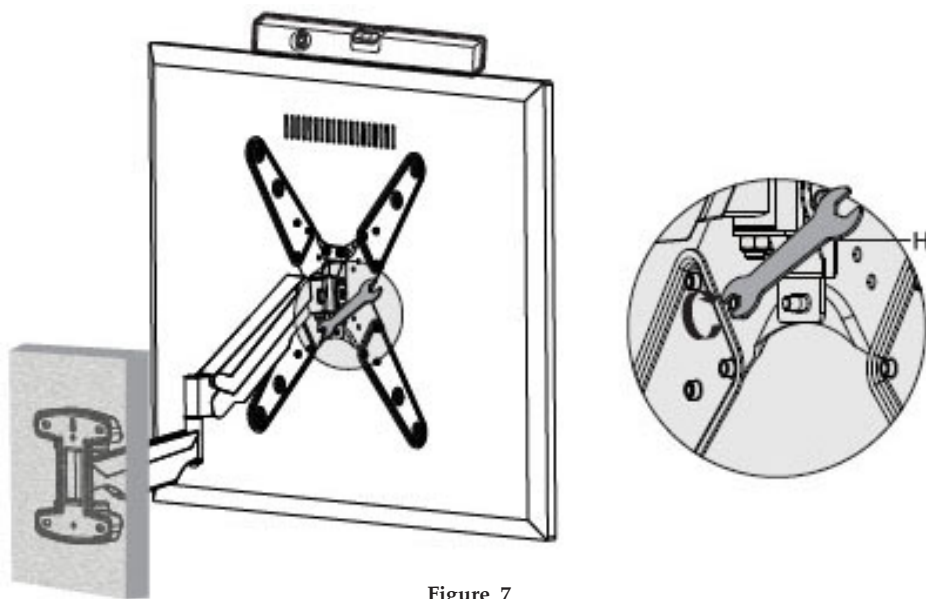

Figure 7
2. Replace the mounting nut removed earlier, and tighten all mounting nuts with **Wrench (H)** by turning them clockwise until fully tight, see **Figure 7**.